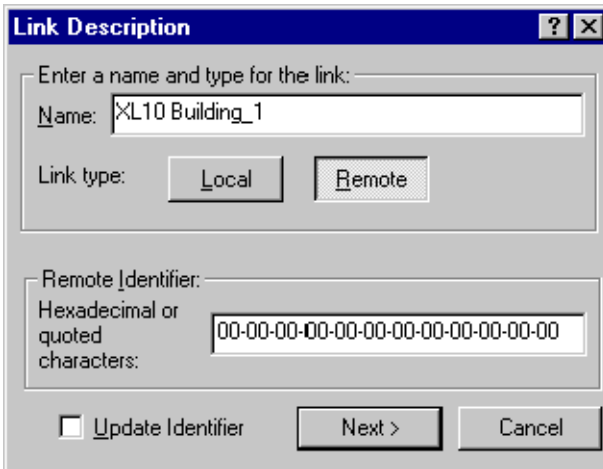

Fig. 5. Link Description Screen.
3. Enter Name and select Remote for Link type. (See Fig. 5).